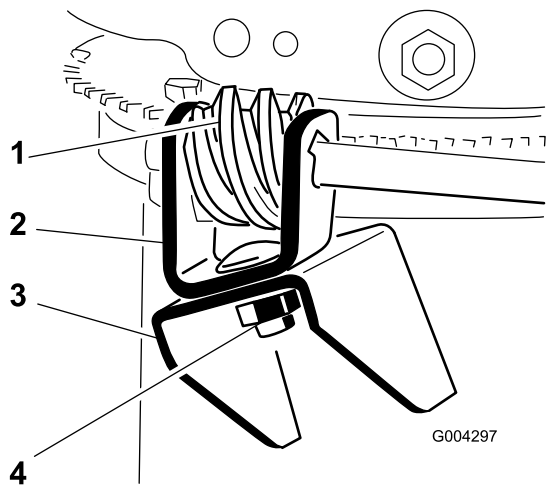

Figure 11
3. Apply No. 2 general purpose grease to the worm gear (Figure 11).
- Loosely mount the worm gear and the bracket to the mounting flange with a bolt, a Belleville washer, and a locknut as shown in Figure 11.
- Slide the worm gear into the teeth of the chute retaining ring and tighten the locknut (Figure 11).